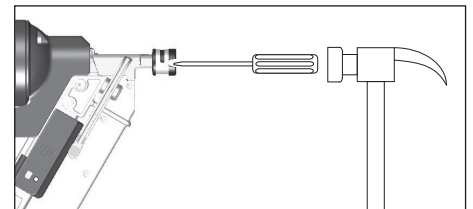

Figure 23
4. If necessary, use small hand tools to help free the jammed nail. Sometimes it is necessary to use a hammer and a long, thin screwdriver to force the driver ram back all the way into the gun (See Figure 23).